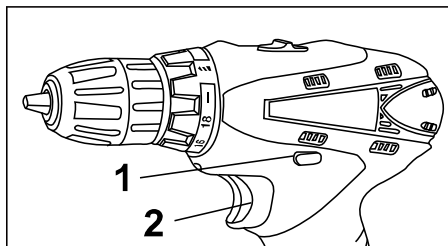

Fig 5
The direction switch (1) is located above the power button (2) (Fig. 5). To rotate clockwise, switch it to the left, to rotate counterclockwise to the right.